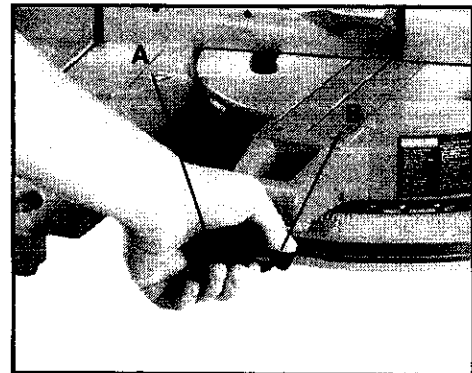

Fig. 12
DANGER: A TURNING SAW BLADE CAN BE DANGEROUS. AFTER COMPLETING CUT, RELEASE SWITCH TRIGGER (A) FIG. 12, TO ACTIVATE BLADE BRAKE. KEEP CUTTINGHEAD DOWN UNTIL BLADE HAS COME TO A COMPLETE STOP.
1. Your compound miter saw will cut any angle from a straight 0 degree cut to 47 degrees right and left. Rotate locking knob (A) Fig. 12, depress lock lever (B), and rotate table to desired position.